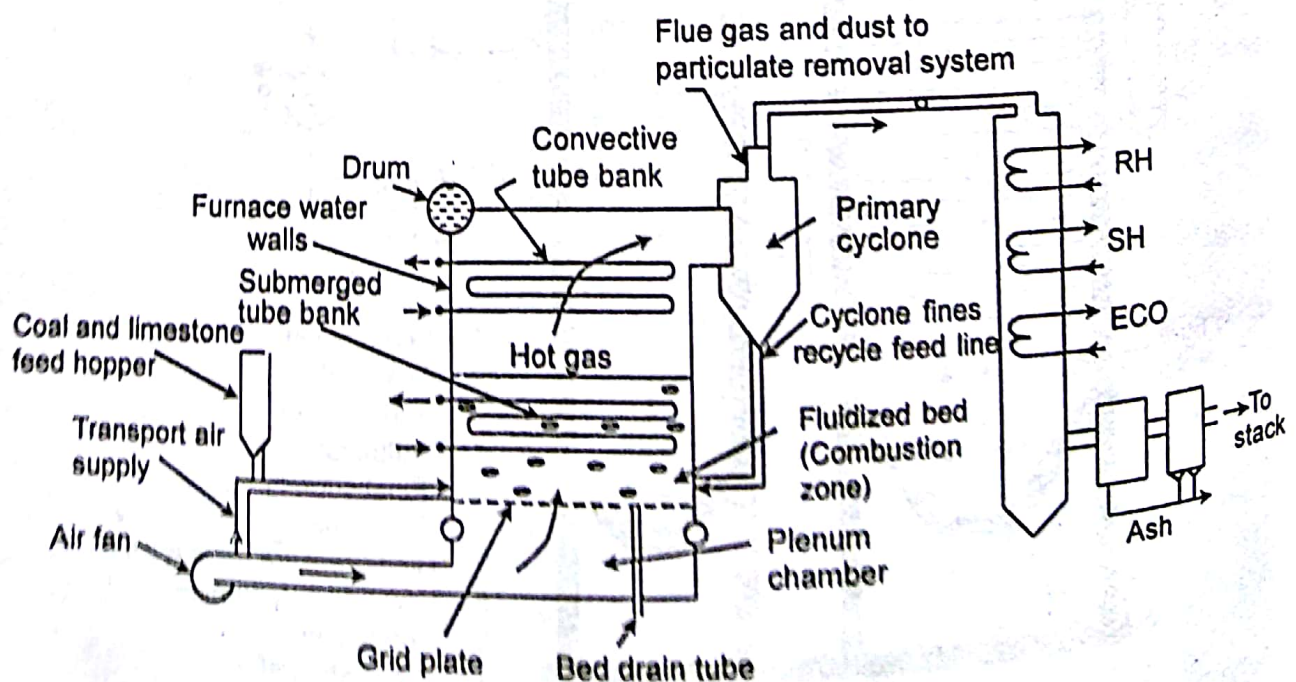

Fig. 6.28. Bubbling Fluidized Bed (BFB) Boiler.
6.5.1. Bubbling Fluidized Bed Boiler (BFB). Fig. 6.28 shows a schematic of a bubbling fluidized bed boiler working under atmospheric condition. *Crushed coal having the size 6 to 20 mm is injected into the fluidized bed along with limestone through the feed hopper just above an air-distribution grid at the bottom of the bed. In some cases, coal and limestone are subjected into the lower section of the furnace from bottom. The air flows upwards through the grid from the air plenum into the bed, which now becomes the furnace where combustion of the swirling mixture takes place. The products of combustion*